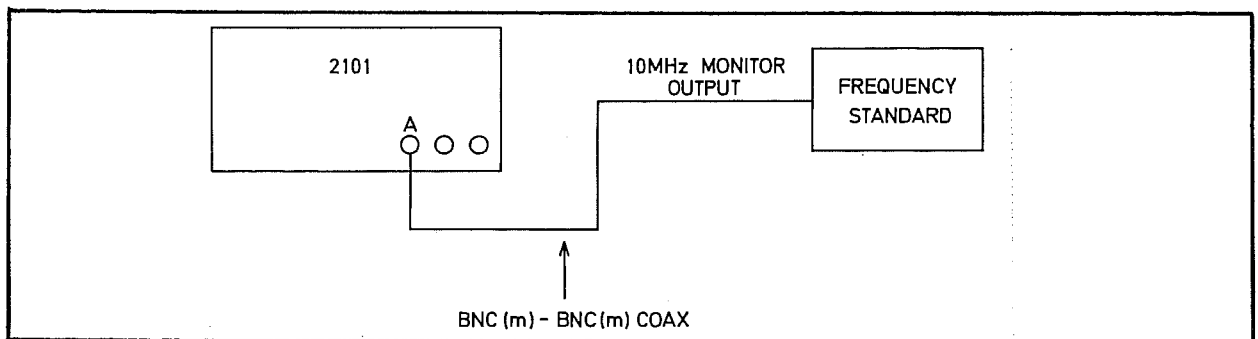

Fig. 7.17 Connections for Internal Frequency Standard Adjustment
- 73 (1) Switch on the 2101. Select **FREQ A** and verify that '000 000 000' is displayed.
- (2) Connect the test equipment as shown in Fig. 7.17.